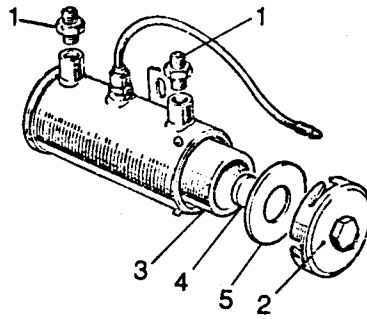

Fig C6.4
- Refer to Fig C6.4. Remove the inlet and outlet unions (1).
- Release the end cover (2) from the bayonet fixing.
- Withdraw the filter (3) from the pump body.
- Remove the magnet (4) from the end cover and clean with a petrol moistened, lint-free cloth.
- Fit the magnet (4) to the end cover (2) using a new gasket (5).
- Refit the inlet and outlet unions (1) to the pump body.